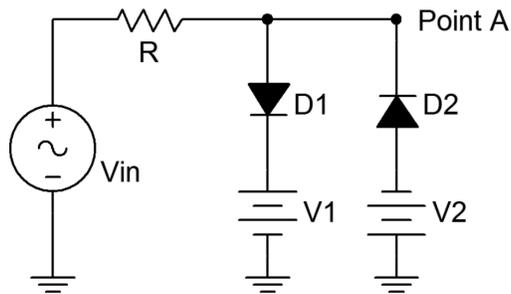

Figure 1
1. Consider the circuit of Figure 1 using  $V_{in} = 5$  volts peak at 1 kHz,  $R = 10$  k $\Omega$ , and both  $V1$  and  $V2$  set to 0 volts. For any positive signal over approximately 0.7 volts,  $D1$  will turn on and limit the output voltage at Point A to 0.7 volts. A similar situation occurs with  $D2$  and negative signals. A sine wave input over several volts will be clipped at  $\pm 0.7$  volts resulting in a squared off wave.
2. Build the circuit of Figure 1 using  $R = 10$  k $\Omega$ , and both  $V1$  and  $V2$  set to 0 volts. Set  $V_{in}$  to a 5 volt peak sine at 1 kHz. Place one oscilloscope probe at the input and the second at Point A. Make sure the scope inputs are DC coupled. Record the positive and negative peak values of the resulting output waveform in Table 1. Also save an image of the scope showing both the input and output waveforms.